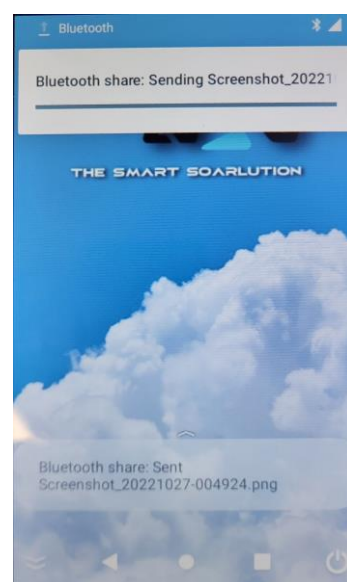

Fig.3
- The file will be transferred and will be located in the "DOWNLOADS" folder (fig.3).